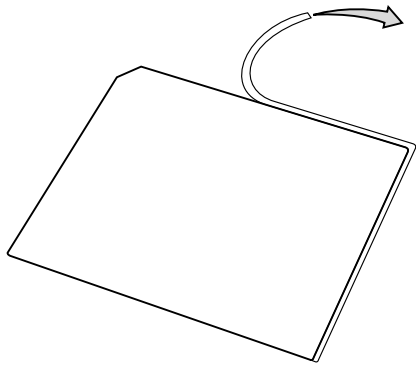

Figure 4. Removing Screen Protector Edge Strip
- For installation on the harsh environment case (HEC), remove the edge from the screen protector, as shown in Figure 4.